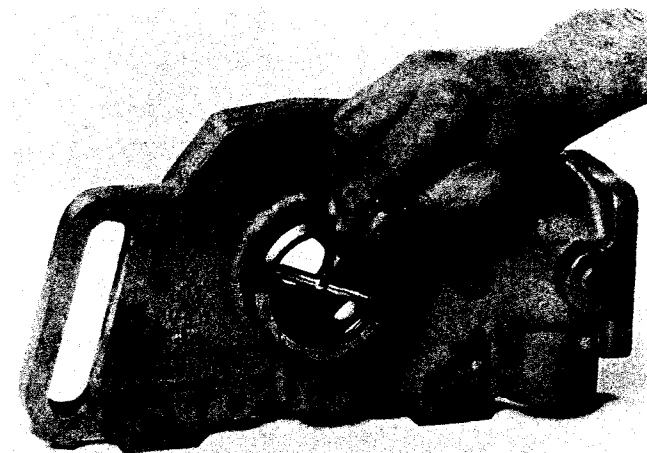

Fig. 8-5, (N10884). Measure housing bore
8. Inspect water pump housing for cracks, possible damage from bearing spinning and be sure "weep" hole is open. Measure housing bore (Fig. 8-5); if the bore is larger than maximum specifications replace housing. See Table 8-1.